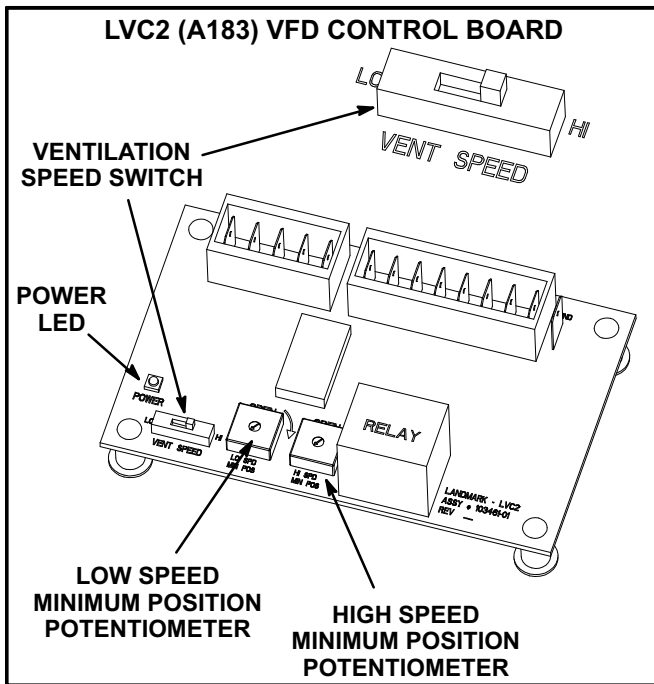

FIGURE 19
To save energy during ventilation, the blower speed can be set to low. This is accomplished by changing the ventilation speed switch on the VFD control board to "LO". See figure 19.
To maintain required minimum ventilation air volumes when the unit is in the occupied mode, two minimum damper positions must be set. A high and a low speed potentiometer are provided on the VFD control board to adjust minimum damper position. See figure 19.
- 5- Check the power LED on the board. See figure 19.
- 8- When LVC2 24VAC thermostat blower (G) input and 24VDC power are present, check the LVC2 low and high speed outputs. The LVC2 uses inverse logic to enable the blower; 1VDC will be read at the enabled blower speed terminal. See table 10.